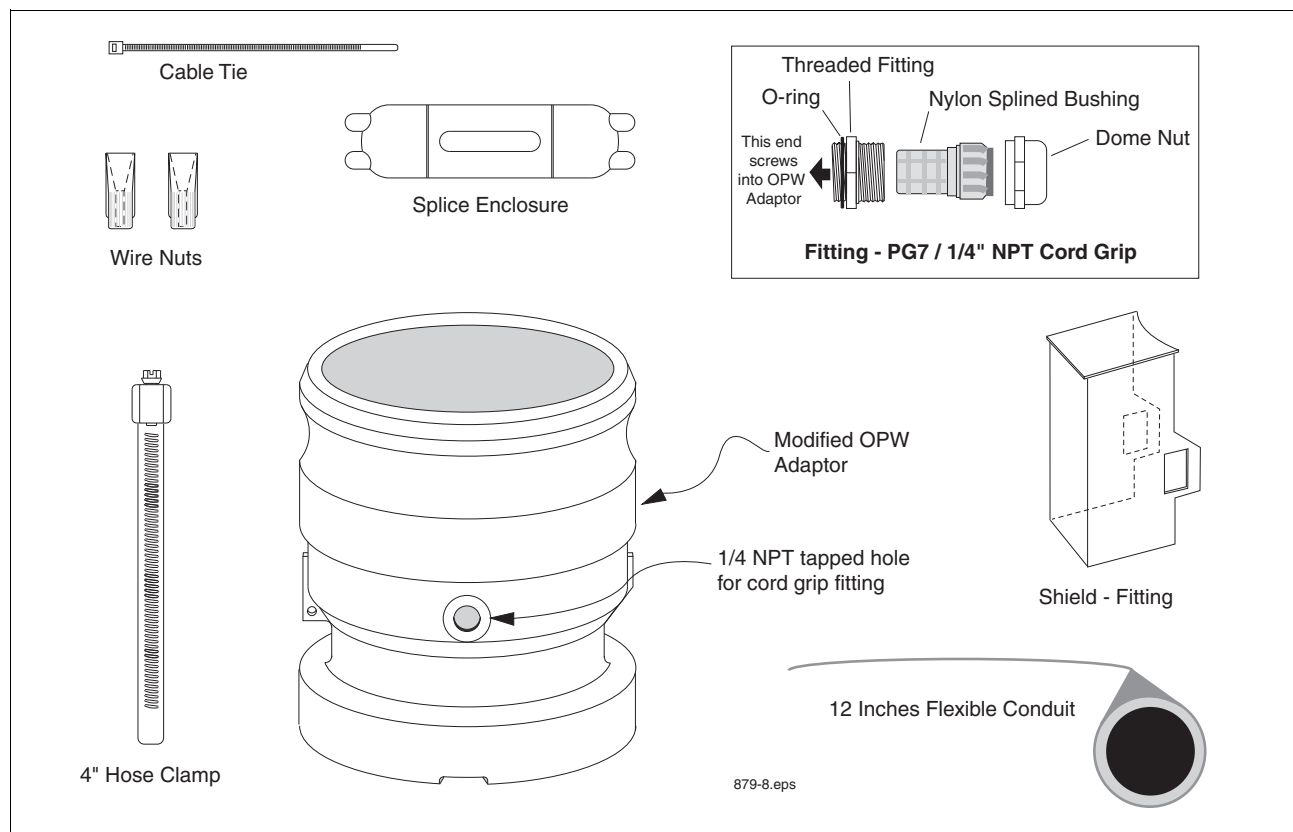

Figure 7. Mag Probe vapor extractor w/coupling adaptor installation kit
This kit contains parts needed to install a Mag Probe into a Vapor Extractor Riser that has a Coupling Adaptor (parts listed in Table 5 and shown in Figure 7):
10. Slip the PG7 cord grip fitting ("O" ring end first) over the cable and screw it into the tapped hole in the Coupling Adaptor (ref Figure 7 on page 17 for the correct PG7 cord grip assembly). Tighten snugly - **Be careful not to overtighten**. Slide the domed nut of the PG7 fitting down the cable and tighten securely onto the PG7 fitting so that the cable stays firmly in place. **Again, be careful not to overtighten**.